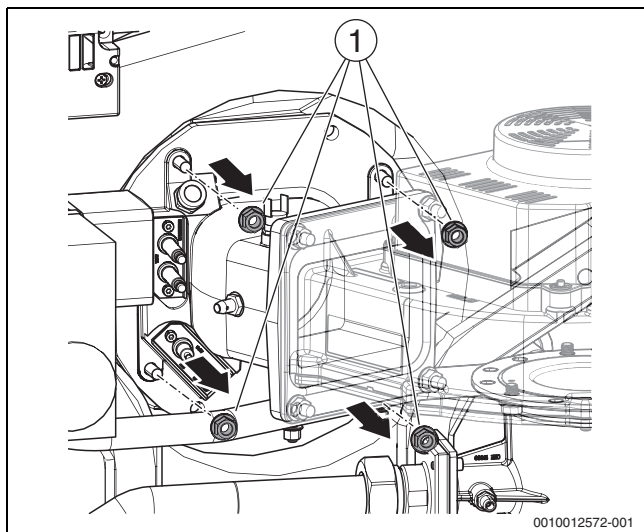
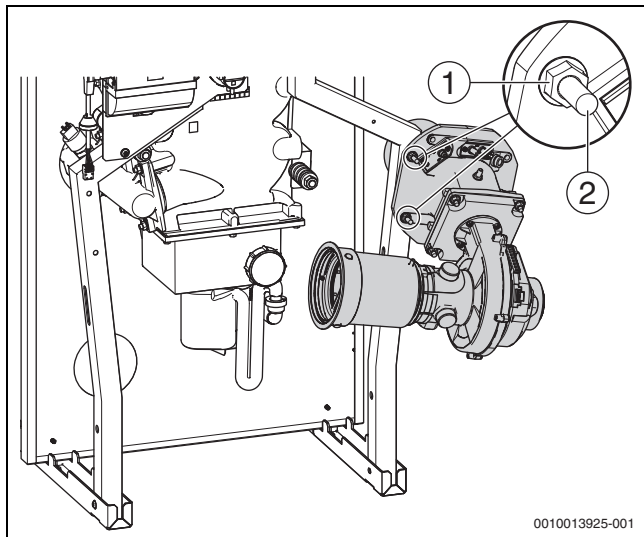

Fig. 43 Undoing the nuts at the mixture manifold
Fig. 44 Burner in the service position (right-hand installation).
► Plug the burner with flange onto the factory-installed screws (→Fig. 44, [2]) and secure with two of the fixing nuts that were previously removed (→Fig. 43, [1]).